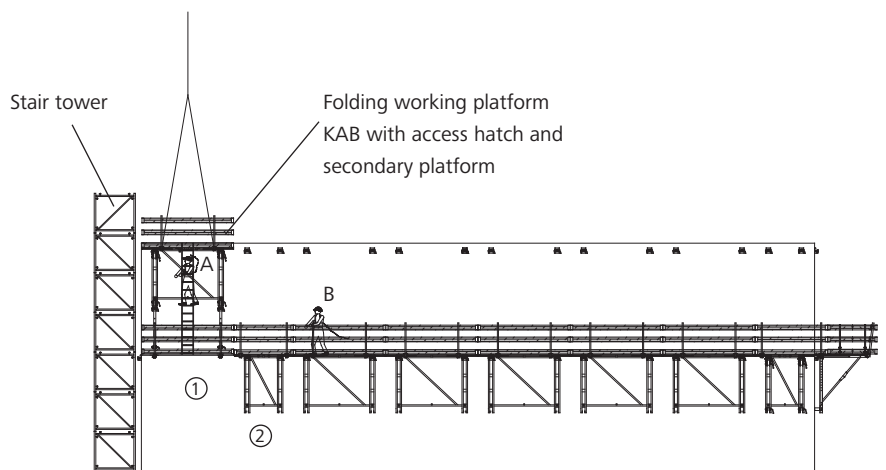
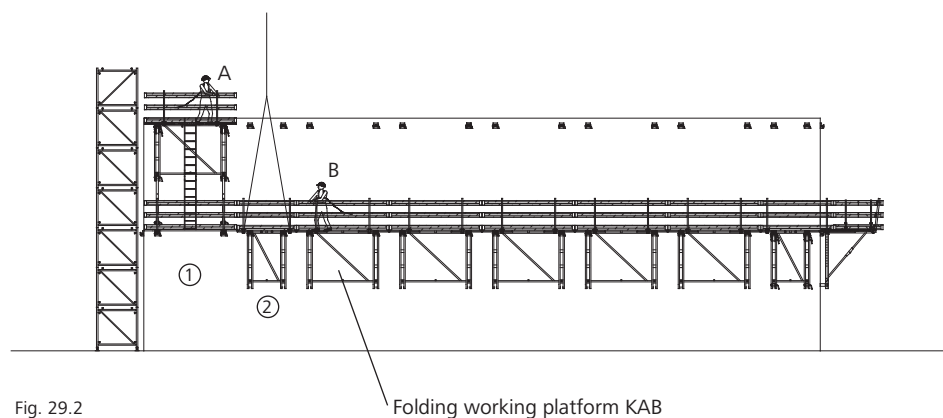

Fig. 29.1
Fig. 29.2
7. Person A climbs up through the access hatch (Fig. 29.1) and removes the crane rope. Person A, who is protected against falling by their personal protection equipment, remains on the platform (1) that has just been pulled up (Fig. 29.2).
8. Person B attaches the crane rope to the next platform (2), unlocks the suspension shoe KAB and leaves the platform (2) (Fig. 29.2).